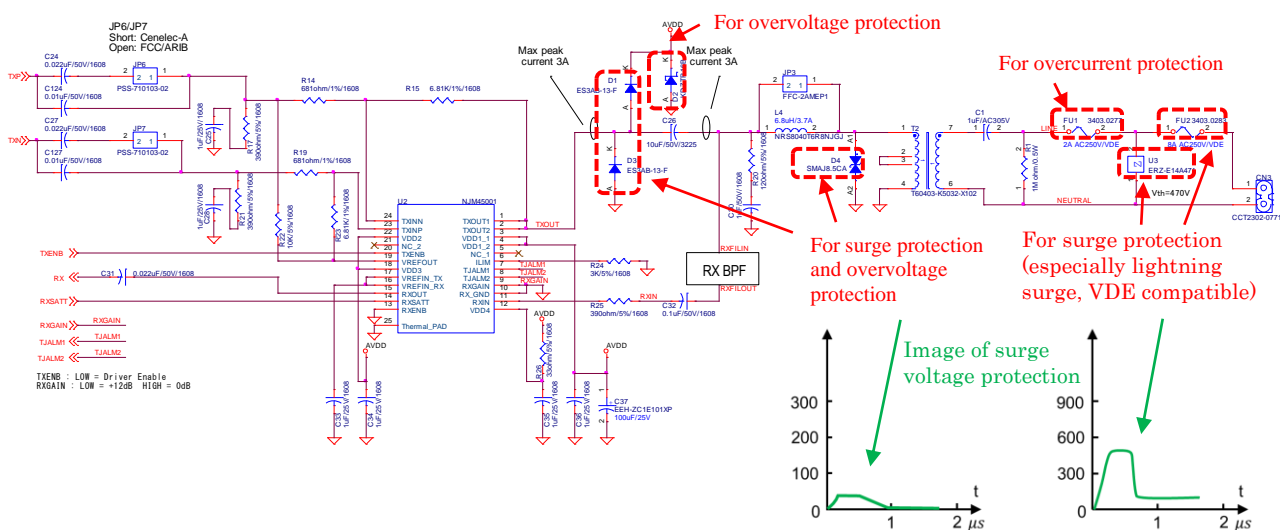

Figure 3-2 Example of connection of protection circuit used for PLC board (CE marking compatible)
- Figure 3-2 shows an example of connecting a protection circuit that supports CE marking used for a PLC board.